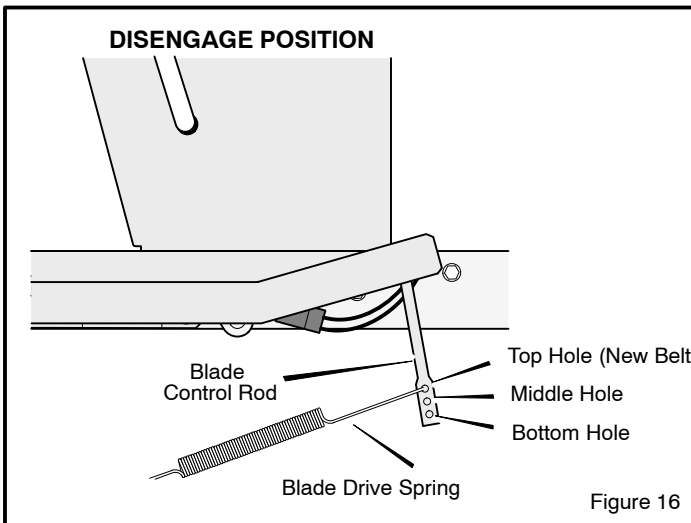

Figure 16
5. Disconnect the **blade drive spring** from the **blade control rod**. Move the **blade drive spring** to the *middle hole* (Figure 16). This will increase the tension on the **mower drive belt**.
12. If you replace the **mower drive belt**, move the **blade drive spring** to the *top hole* (Figure 16).